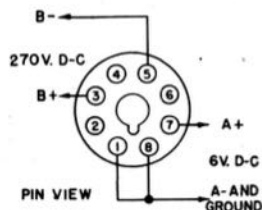

Figure 7. D-C Power Plug Connections
**b. D-C Operation.**- To operate the receiver from external batteries delivering 6-volts at 4.5 amperes and 270-volts at 145 milliamperes (or from a vibrator supply of like capacity), connect plug PL2 as shown in figure 7 and insert it in socket SO1 in place of the jumper plug used for a-c operation.